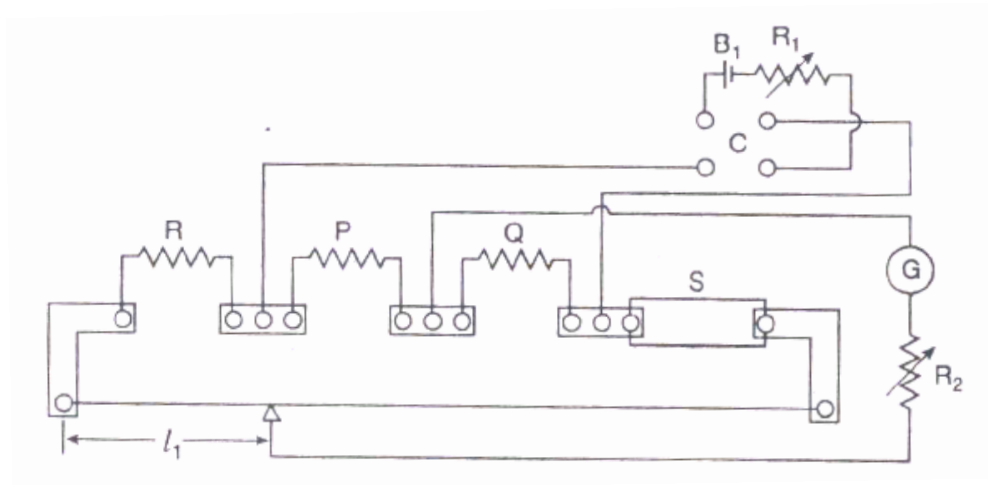

Figure 2
Note: a meter bridge also works is similar principle. In the meter bridge, two of the resistors,  $R$  and  $S$  are replaced by a one meter length of resistance wire, with uniform cross-sectional area fixed on a meter scale. Point D is an electrical contact that can be moved along the wire, thus varying the magnitudes of resistances  $R$  and  $S$ . The Carey Foster bridge is a modified form of the meter bridge in which the effective length of the wire is considerably increased by connecting a resistance in series with each end of the wire. This increases the accuracy of the bridge. *Figure 2* shows the circuit diagram of a Carey Foster bridge.
1. Make the circuit as in *Figure 2*. Note that  $S$  is a metal strip. Connect a resistance box in place of  $R$ . Observe the null point. Insert a small resistance in the circuit from the box. Note the null point readings for both direct and reverse currents. Increase gradually the resistance  $R$  (say, in steps of  $0.1\ \Omega$ ) and each time record the null points ( $l_1$ ) for both direct and reverse currents till the end of the bridge wire is approached.